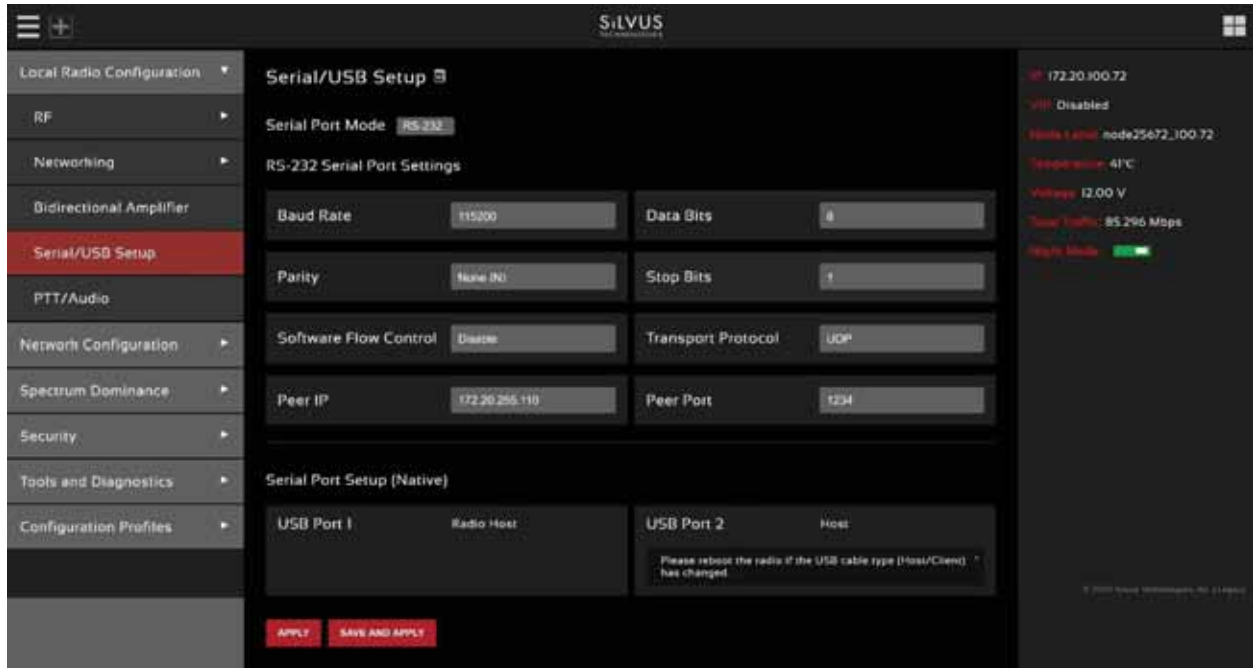

Figure 39 Serial/USB Setup Page
- o **RS-232:** The RS-232 mode provides a wireless serial connection between any two serial devices connected to StreamCaster radios on the network. In this mode, the user must configure the RS-232 protocol parameters shown in **Figure 39 Serial/USB Setup Page** above. The transport protocol for the serial data can be set as either TCP or UDP. For data that is sensitive to latency such as command and control data, UDP is recommended. For data that cannot tolerate any data loss, such as telemetry data, TCP is recommended.